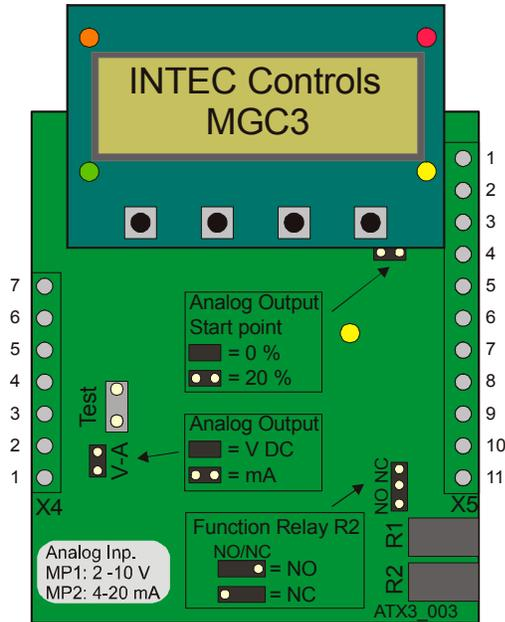

Fig. 5
The output signal (mA / V) and starting point (0 /20%) is selected at the I/O Board by means of jumpers. See fig. 5.
* The analog input function is determined by the hardware. Each PCB has got a label with the specific type. See fig. 5
Select the analog output signal with jumper V-A and 0-20%. See fig. 5